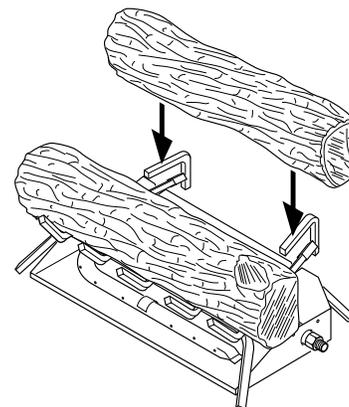

**Figure 18 - Installing Grate (Pan Material Not Shown)**
2. Slide the two rear log grate steps over the two outer horizontal supports on the grate as shown in Figure 18.